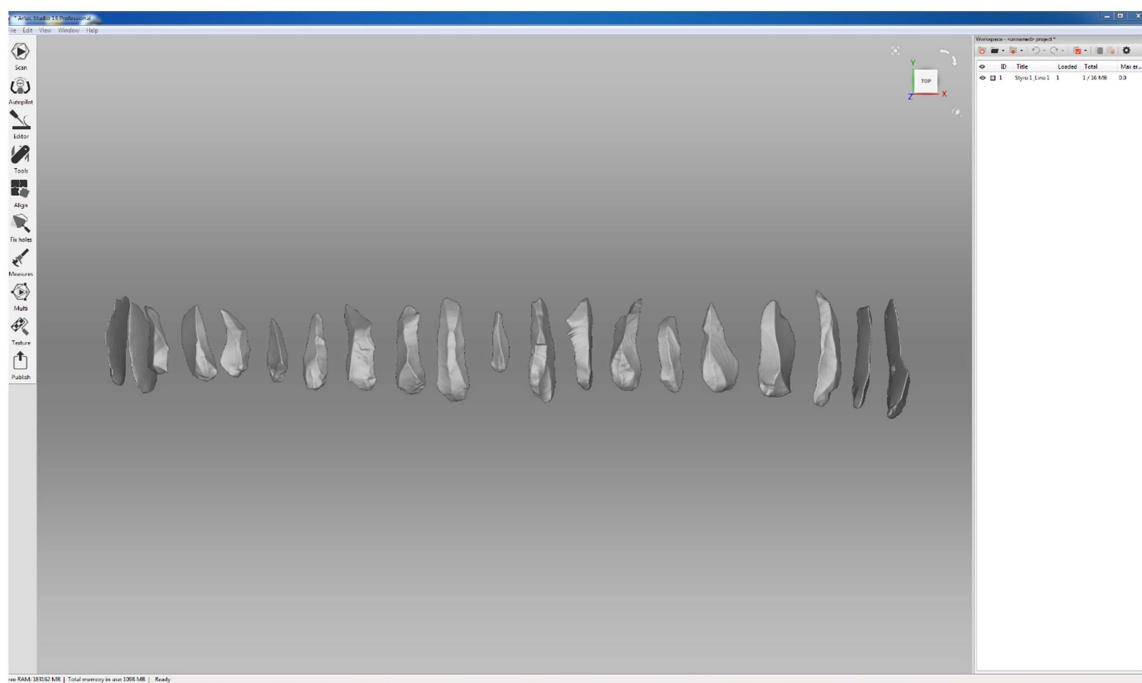

Fig. 30: Loaded line 1 in correct position.
43.1 Rotate the line model with the left mouse cursor in the 3D View Panel as shown in Fig. 30. Remember to position the scan so that the artefacts in the model correspond to their actual order, i.e., the first artefact in the model must be the first one in the list, so it is positioned in the upper left. Also remember to look at the scan from the correct side. This can be done by orienting the scan using the reference pictures.